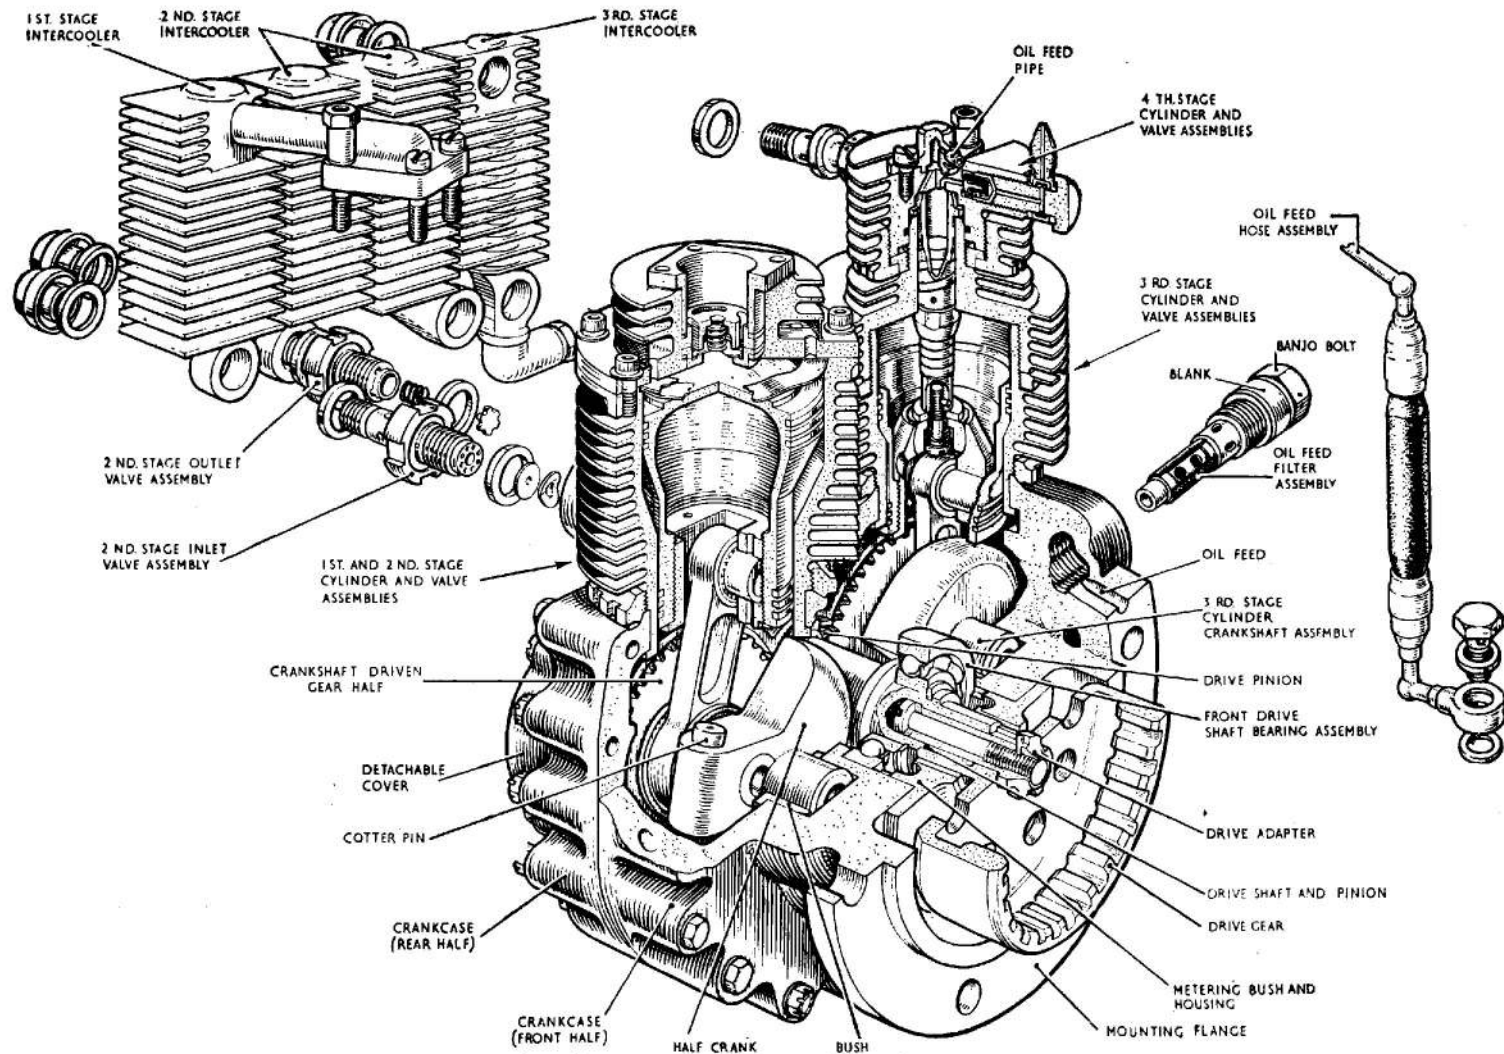

Fig. 1. General arrangement of the air compressor
1. The compressor (*fig. 1*) is driven by an electric motor through a gearbox that is mounted axially on one end of the motor, the compressor is bolted on a spigoted flange to the output end of the gearbox. A fan at the other end of the motor supplies cooling air through a cowling to the motor, gearbox and compressor. A breather assembly secured to the top of the gearbox extends through a grommet in the cowling. The complete unit is supported on three feet, one centred on the gearbox and the other two at the sides of the motor. These mountings are supported on rubber bushes.